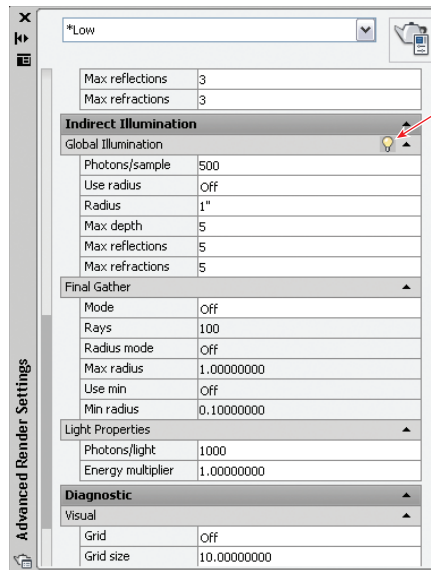

FIGURE 18.17 Toggling on global illumination
4. If you're a Windows user, click the small icon at the right edge of the Render panel (or type **RPREF** and press Enter) to open the Advanced Render Settings palette. Scroll down in the palette, and toggle on Global Illumination by clicking the lightbulb icon shown in Figure 18.17. Mac users cannot adjust any advanced render settings.